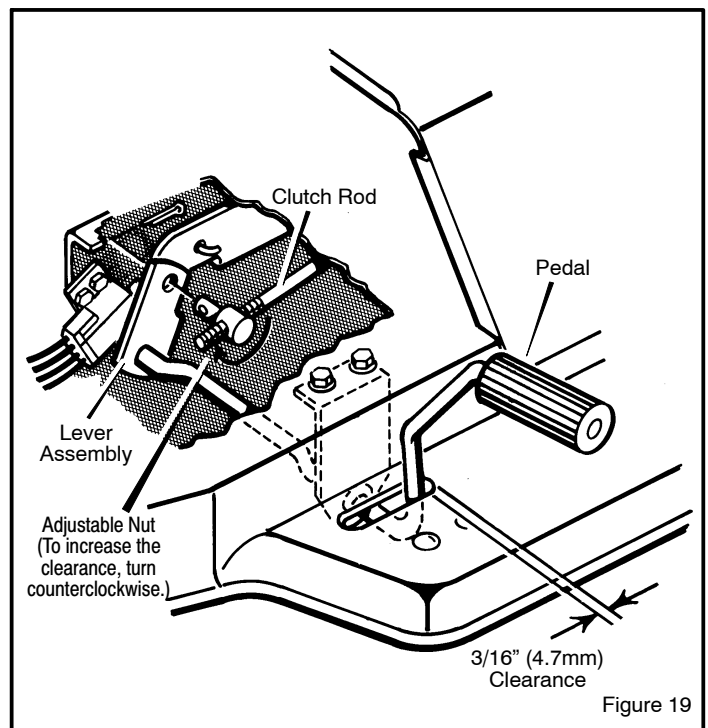

Figure 19
If the motion drive belt is loose, the clutch will slip when; (1) going up a hill, (2) pulling a heavy load, or (3) the unit will not move forward. Check the clearance at the rear of the **pedal** (Figure 19). If the motion drive belt is loose, the clearance will be less than **3/16 inch** and the clutch will slip. Adjust the clutch as follows.
2. Disconnect the **adjustable nut** from the **lever assembly** (Figure 19).